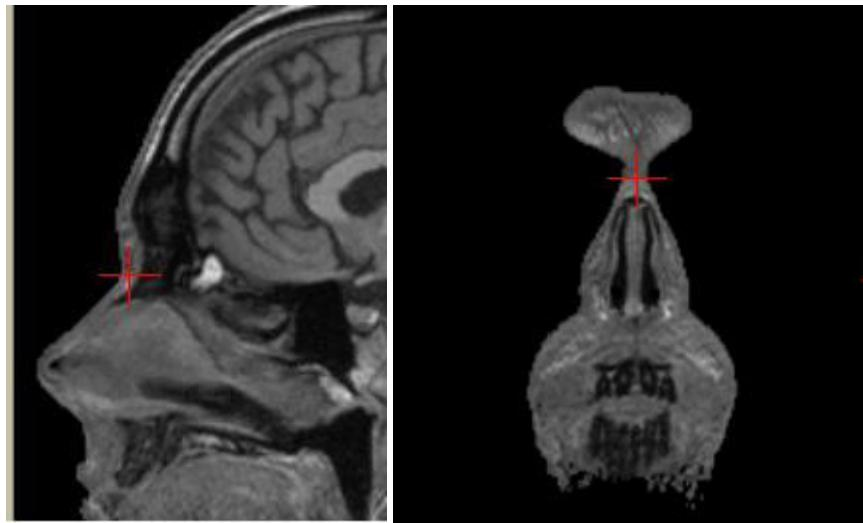

Fig. 73. Nasion landmark location sagittal and coronal MRI views
3. The correct position for the nasion landmark is simply the lowest position of the nasion, it is easiest to find by viewing the sagittal and coronal MRI images, as shown in Figure 73.